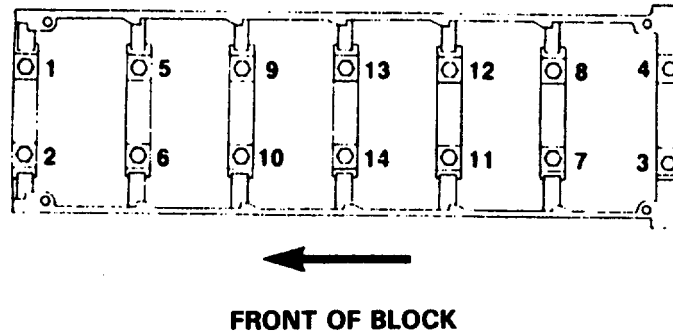

FIGURE 4-53. *Bearing Cap Torque Sequence.*
- (15) Measure the end clearance of the crankshaft as follows:
- (16) If the end clearance is less than 0.007 inch (0.18 mm), do the following:
- (c) Tighten the main bearing capscrews in the sequence shown in FIGURE 4-53 to the torque values listed in step (1) or step (m) of this procedure.